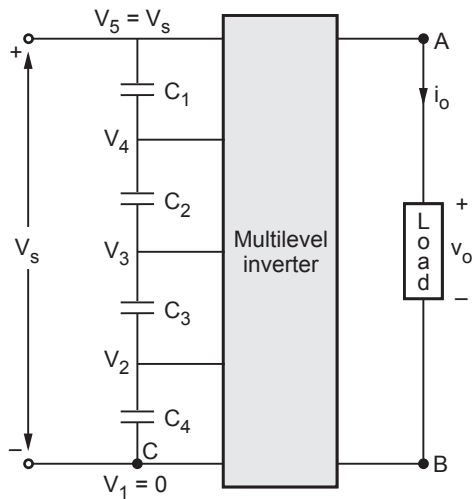

Fig. 3.7.1 Multilevel inverter
- Fig. 3.7.1 shows the concept of multilevel. The DC supply V_s has four capacitors C_1, C_2, C_3 and C_4 connected across it. Hence voltage across each capacitor will be $\frac{V_s}{4}$.
- The load can be inductive. It is connected between points 'A' and 'B' of two legs of inverter. Note that $v_0 = V_A - V_B$. If we calculate V_A and V_B with respect to '0' volts (the '0' volts line is named as point 'C' in Fig. 3.7.1) of DC supply then